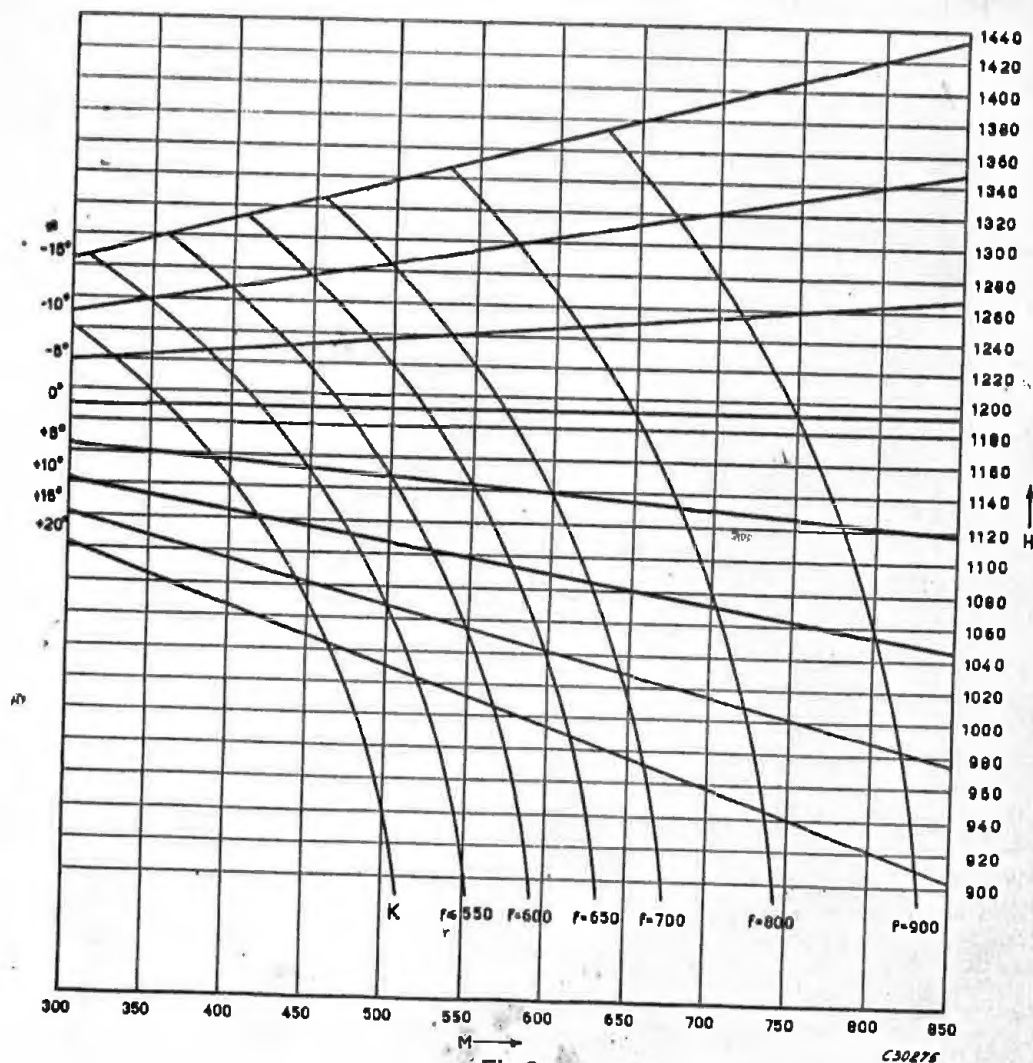

Fig. 3
- Fig. 3 Graph for the determination of the booth window height and distance to the booth wall.
This distance has to be taken from the center of rotation of the mounting plate to the booth front wall. In view of an easy control, it is recommended not to make this distance too small. The smallest admissible distance for a projector without slide projector has been indicated in Fig. 3 by the curve K. For a projector with slide projector this distance is determined by the curve f \leq 550. If the amplifier casing is mounted between both projectors, take into account on one part that the projector doors can be opened far enough and that on the other part the door of the amplifier casing can be opened far enough to be able to take the amplifier out of the casing.